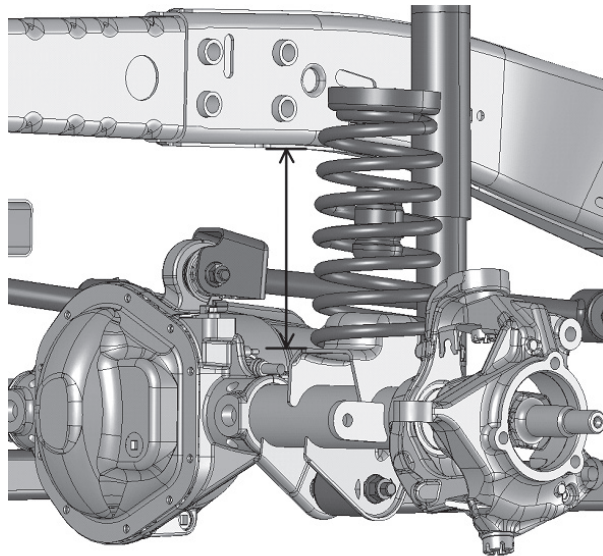

Figure 3
1. You'll first need to get a measurement from your vehicle to determine whether or not you should be using the drop brackets. Measure from the bottom of the frame to the top of the spring seat (Fig. 3).